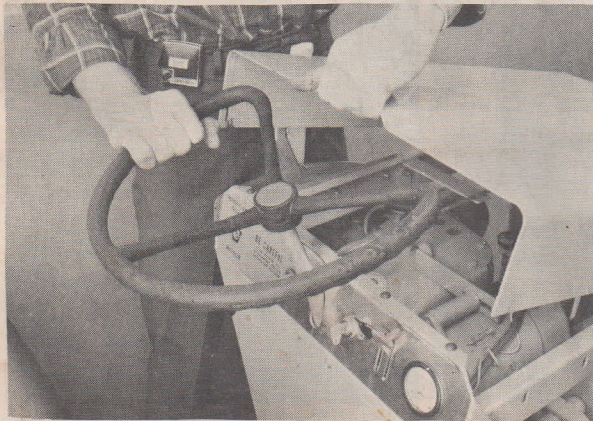

FIG. 2 Opening Hood
- 6. Lift the tractor hood as shown in Figure 2 after rotating the steering wheel ½ turn either way. Raise the hood completely over the grill and let it down gently until the hood hits against the grill front. CAUTION: Don't throw the hood over and let it slam as this will bend it. Lift rear seat to expose battery and gas tank